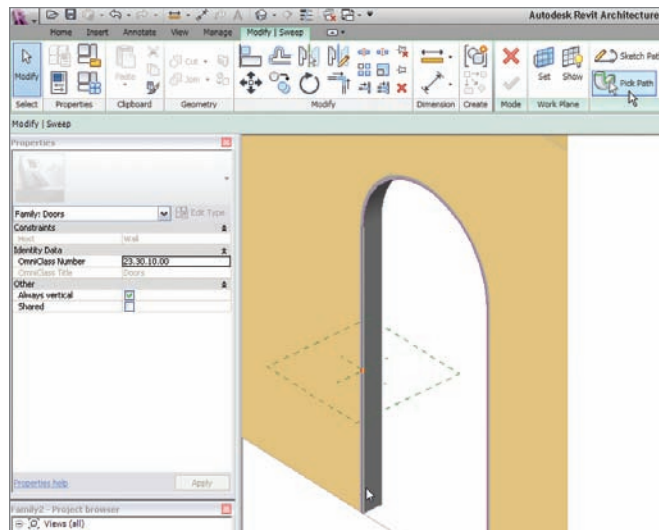

FIGURE 17.22 Picking the path for the sweep
1. Go to a 3D view (if you are not there already) and position the view so it looks like Figure 17.22.
4. Pick the inside corner of the jamb starting with the left side, as shown in Figure 17.22.